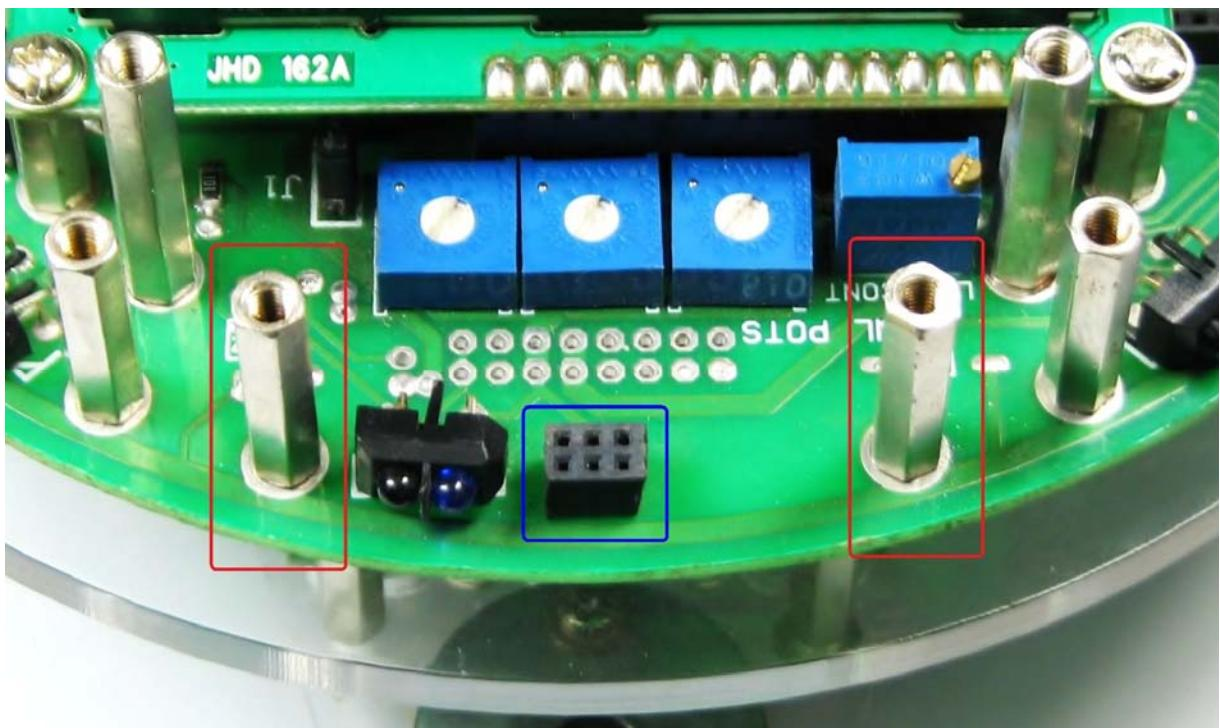

Figure 5.10: Mount 20mm studs from the Sharp sensor mounting kit
Step 2: Mount the 20mm studs on the main board on the position where sharp sensor is to be fitted. In figure 5.10 area highlighted with the red border shows the mounted studs from the Sharp IR range sensor mounting kit.
Holder for the Sharp IR range sensor is highlighted in the figure 5.10 by blue border.